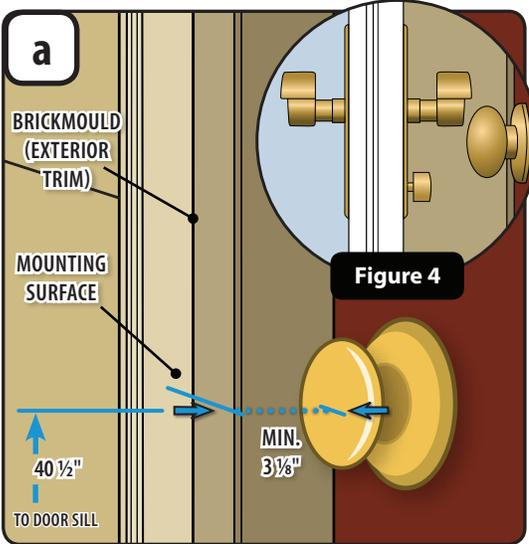

Figure 4
1. Most homeowners prefer to have the storm door handle on the same side as the entry door handle. In shallow door openings, this can cause the two handles to interfere (see Figure 4).